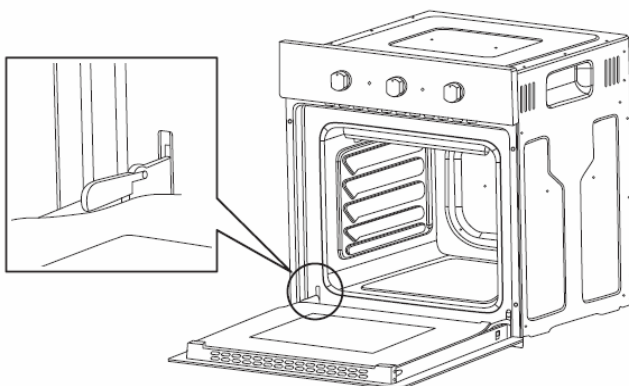

FIG.1
Removing the door from the oven (Fig.1)
- Remember to turn the two moving links "B" used to engage the two hinges before closing the door.(Fig.1)